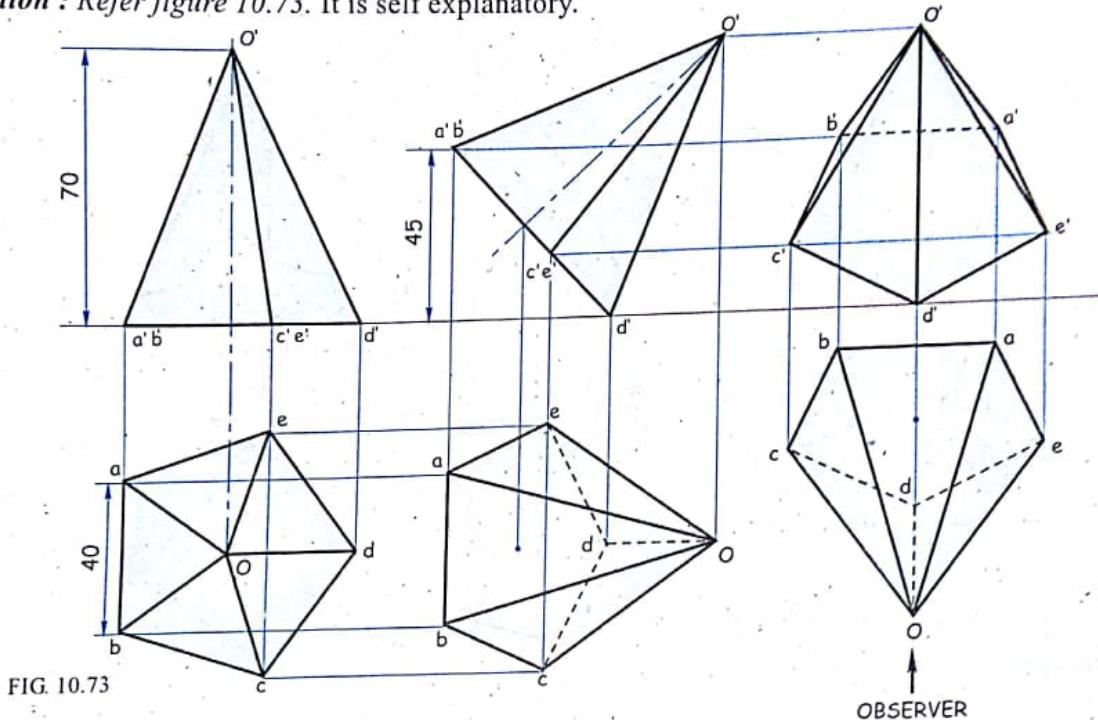

FIG. 10.73
**Solution :** Refer figure 10.73. It is self explanatory.